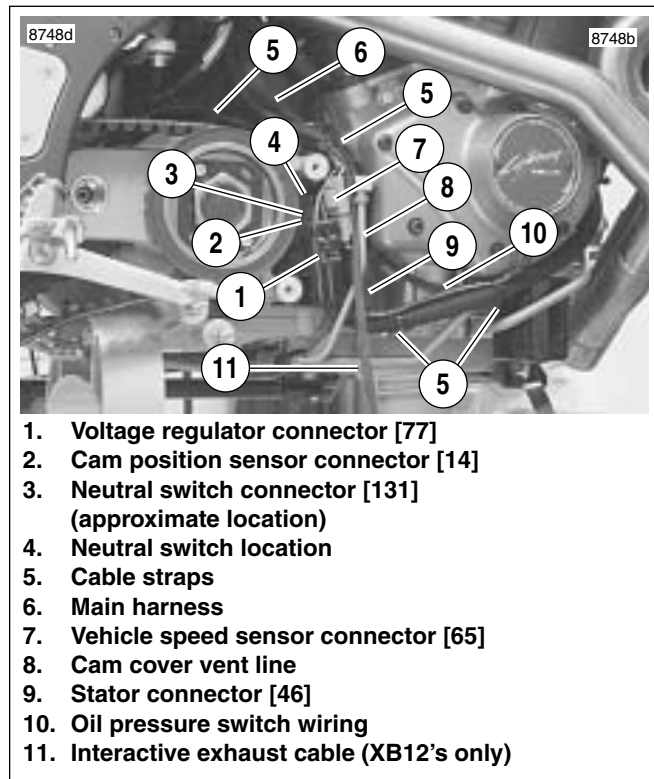

Figure 7-91. Sprocket Cover Wiring
2. See Figure 7-91. Disconnect appropriate connector(s).
See Figure 7-91. All wiring under sprocket cover that gets routed from sprocket area towards front of vehicle is routed behind cam cover breather line (8).
1. Route oil pressure switch wiring (10) from main harness (6), behind cam cover vent line (8) to oil pressure switch located on front of engine.